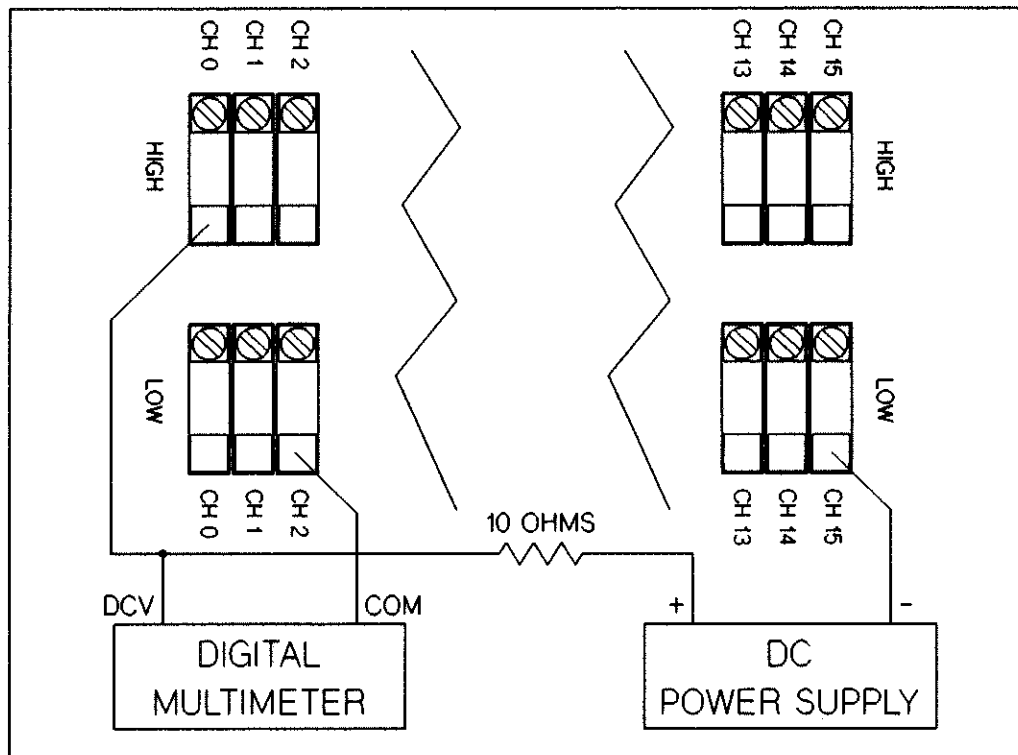

Figure 13-8 Even Channel Sink Current Test
- Connect the COM (LO) input of the multimeter to the shorted LOW connections on the test fixture. the connections are shown in Figure 13-8.